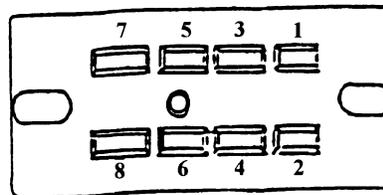

Figure 3
2. Remove the terminal from location 3 of the changer socket (See figure 3 above) using the removal instructions on page 3.
4. Remove the terminal from location 7 of the changer socket (See figure 3 above) using the removal instructions on page 3.
7. Insert wire #3 of the conversion harness in changer socket location 3. (See figure 3, page D1.)
8. Insert wire #4 of the conversion harness in changer socket location 4. (See figure 3, page D1.)
9. Insert wire #7 of the conversion harness in changer socket location 7. (See figure 3, page D1.)
10. Insert wire #8 of the conversion harness in changer socket location 8. (See figure 3, page D1.)